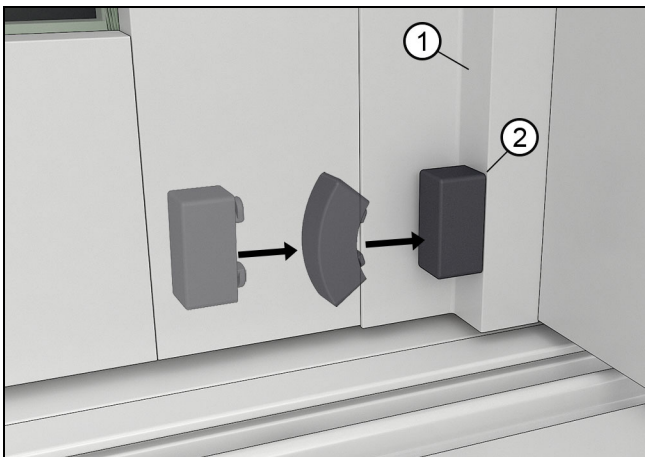

Figure 102
6. Insert a pocket cover bumper at the top and bottom of the pocket cover trim piece. Squeeze the rubber bumper and insert in to the pre-drilled holes. See Figure 102.